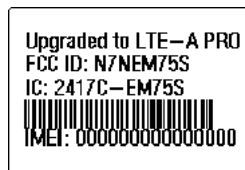

Figure 8: FCC/IC label
10. Attach the FCC/IC label, shown in Figure 8, to the bottom of the unit. This label identifies the new radio module and maintains the FCC compliance.